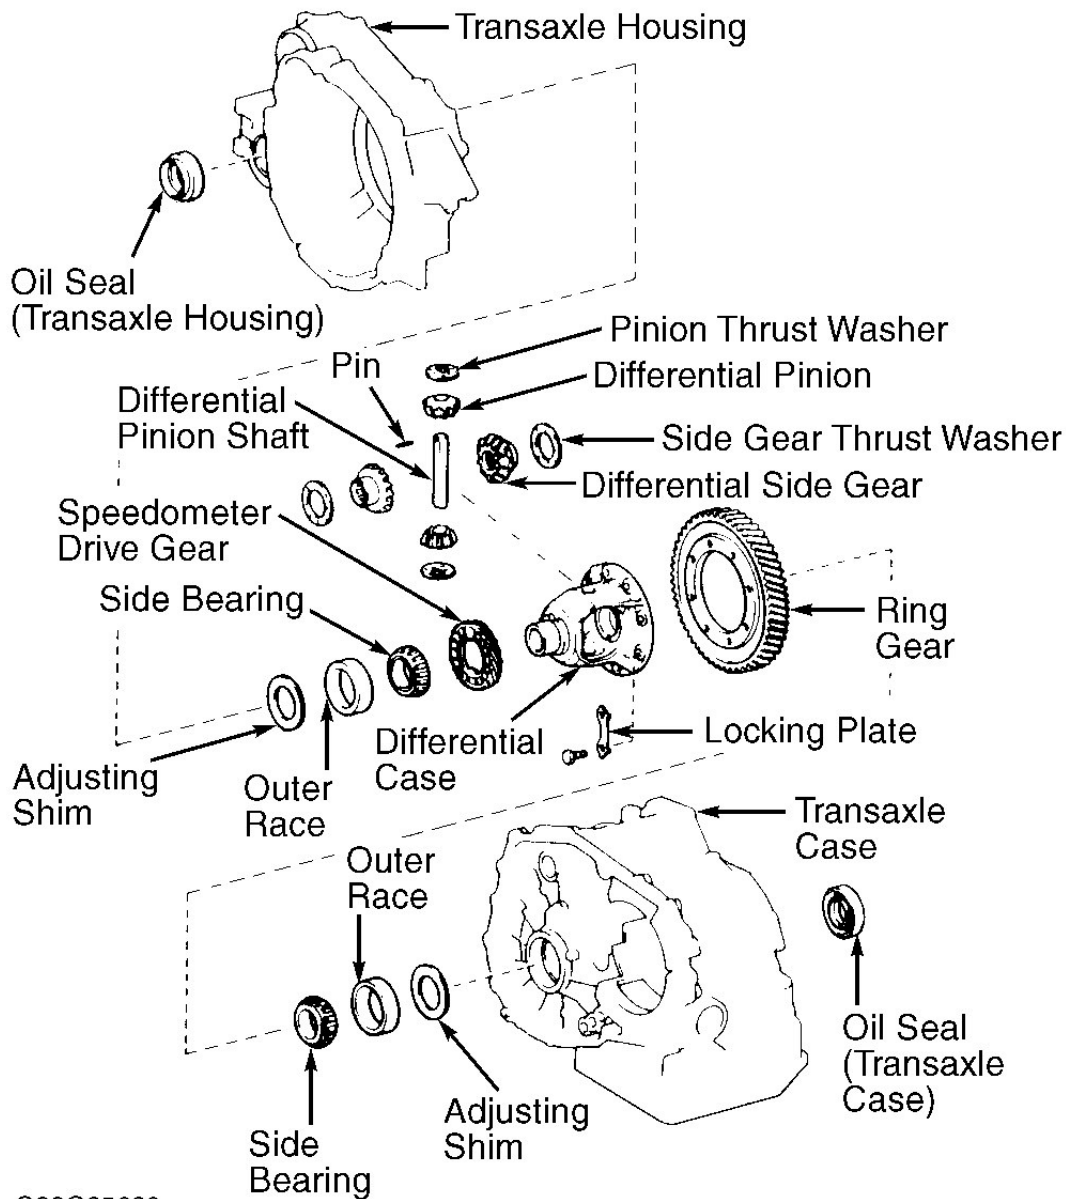

Fig. 49: Exploded View Of Differential Assembly
3. Drive out pinion shaft lock pin from ring gear side. Remove pinion shaft, pinion gears, side gears, and thrust washers. See **Fig. 49** . Remove oil seals from transaxle housing and transaxle case. Remove bearing outer races and shims from transaxle case and housing.